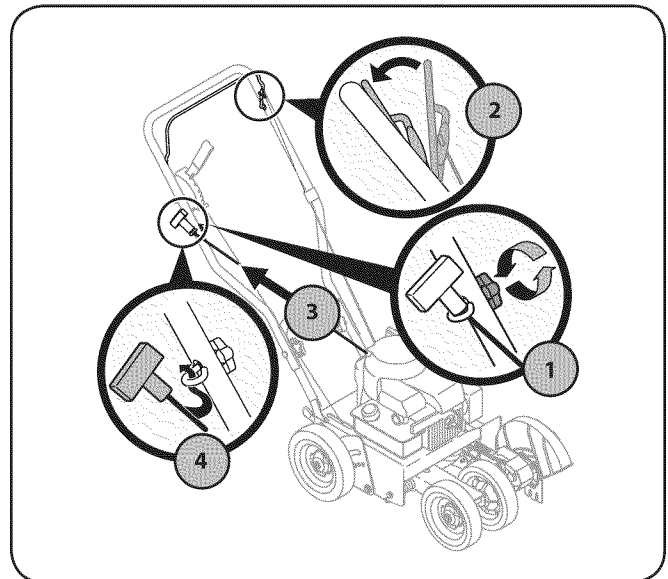

**Figure 3-1**
1. Pivot the upper handle upward until it snaps into place. See Fig. 3-1.